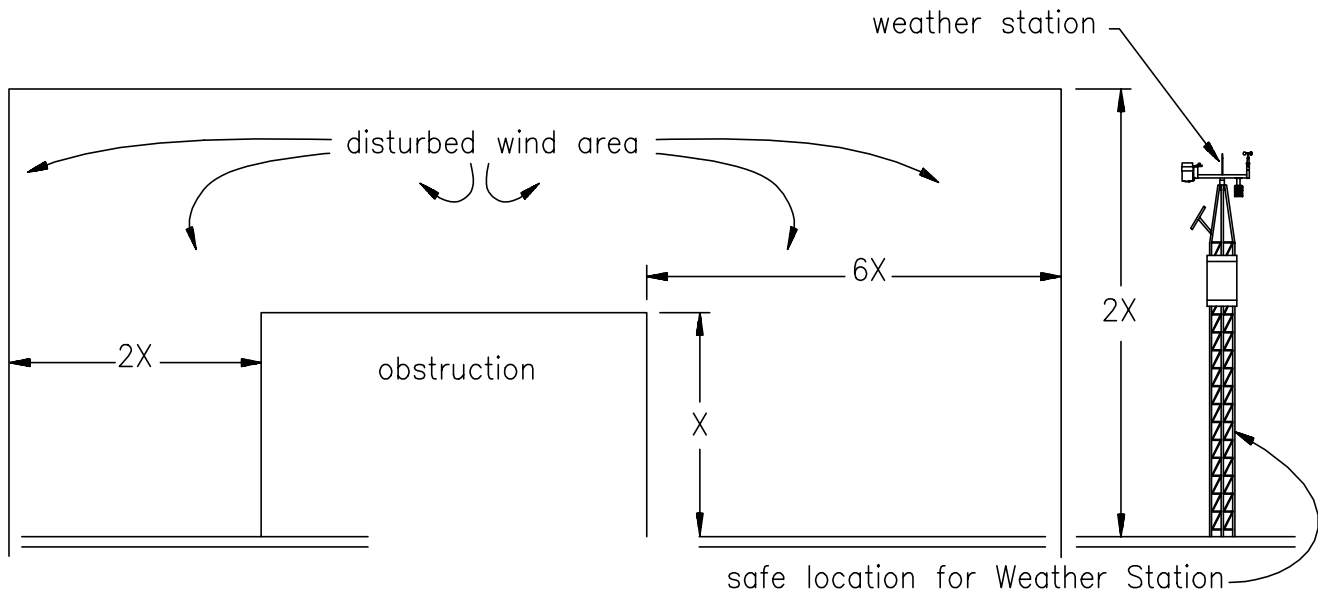

FIGURE 1.2-1 Effect of Structure on Wind Flow
1. Trees, buildings, or other structures can greatly influence wind speed and direction observations. As a rule of thumb, a structure will disturb the air flow an upwind distance of about twice the height of the structure, a downwind distance of about six times the height of the structure, and a vertical distance of up to twice the height of the structure (Figure 1.2-1).